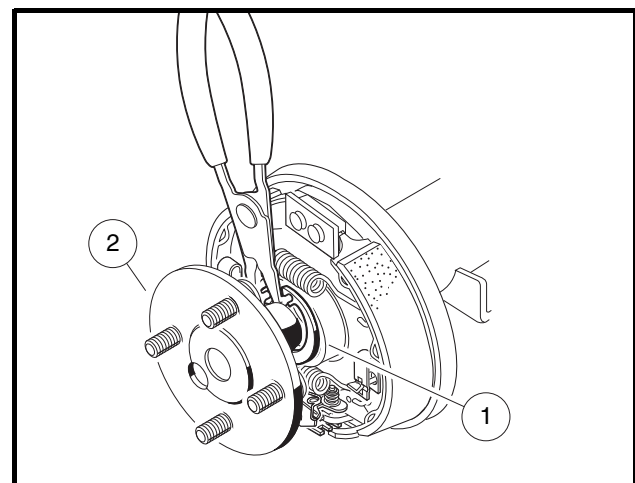

Figure 6-3 Remove Axle Retaining Ring
- 5.1. Using 90° snap ring pliers (CC P/N 1012560), remove axle retaining ring (1) (**Figure 6-3, Page 6-2**).
- 5.2. Pull the axle shaft (2) from the axle tube (**Figure 6-3, Page 6-2**).
7. Install axle shaft (2) into axle tube and install retaining ring (1) (**Figure 6-3, Page 6-2**). See following **WARNING** and **CAUTION**.